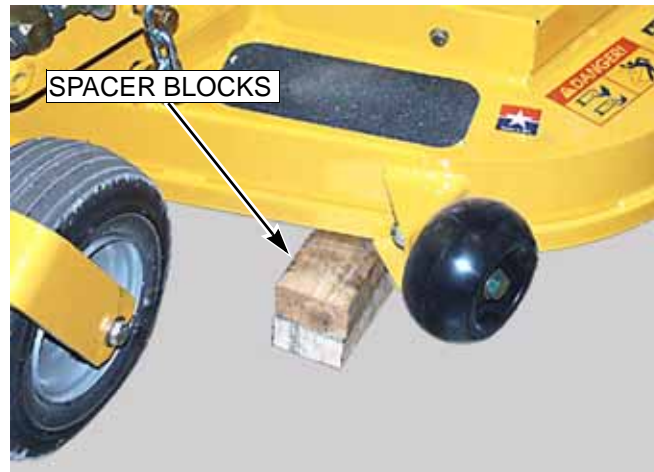

FIG. 43
4. Place 3.0" high deck support blocks under deck at the four corners shown in FIG. 43